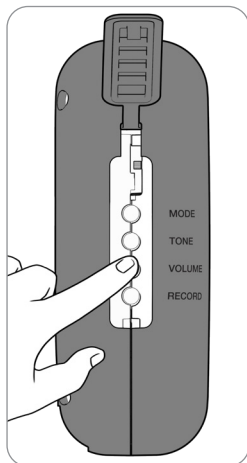

Fig. 7
3. Press VOLUME button on left side of fall monitor to scroll through the volume selections (Fig. 7).